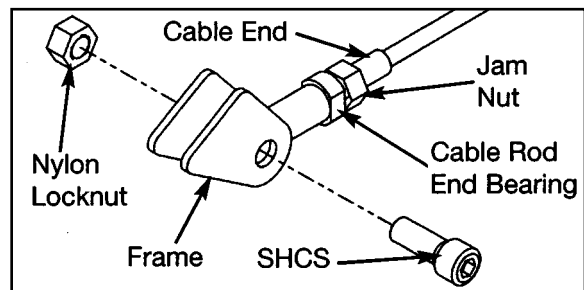

Figure 7
2. Rod End Adjustment - This type of adjustment contains a socket head cap screw (SHCS) securing a cable rod end bearing to the machine. Primary adjustment is by returning cable usually contains a roll pin cable adjustment. See Figures 7 and 8.